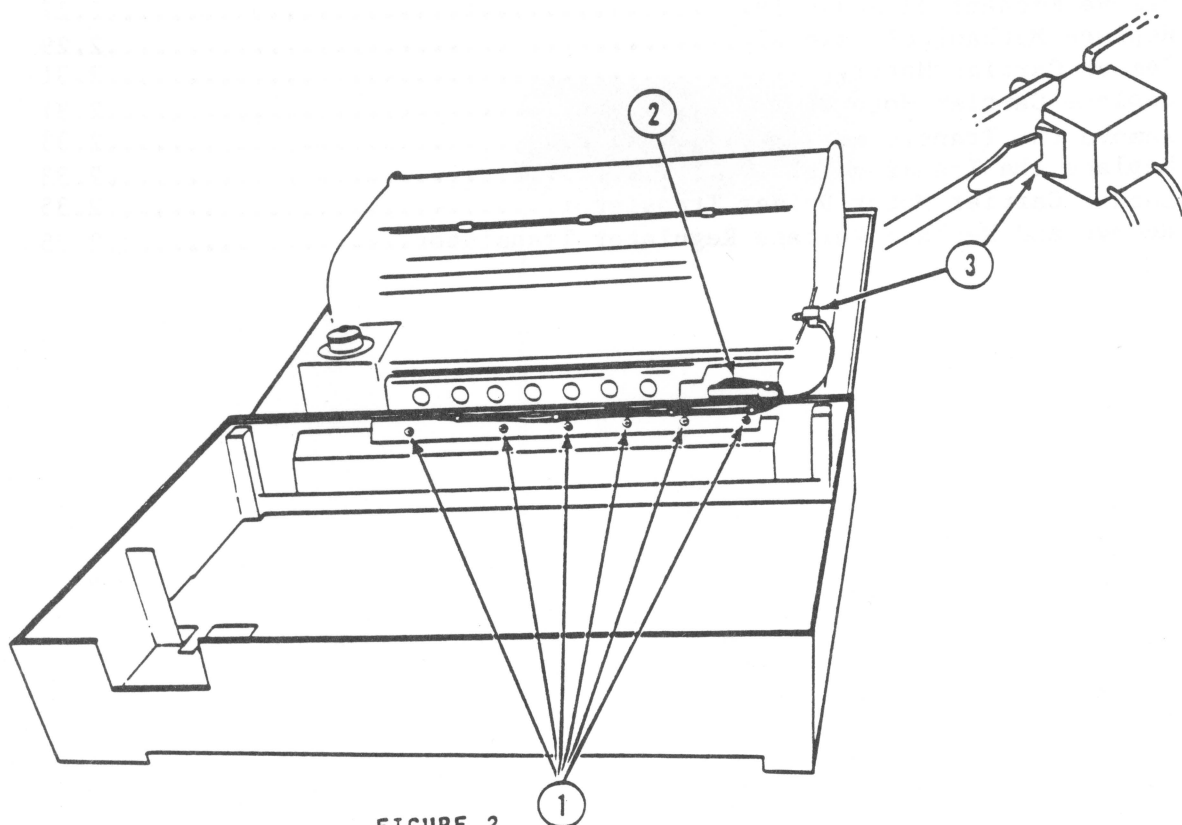

FIGURE 2
7. Remove the six screws from the back of the switch panel. (See Figure 2, #1.)
8. Pull the switch panel connector from the CPU board. The connector is in the "well" at the right front of the printer. Reach down into the "well" to find it. If you have trouble getting the connector free, carefully use a flat bladed screwdriver to pry it loose. (See Figure 2, #2.)
9. Using a flat blade screwdriver, depress the latches on both sides of the limit switch and push the switch in toward the center of the printer. (See Figure 2, #3.) Lift the wire free from the slot.